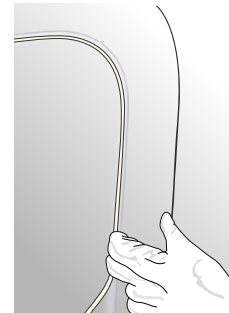

Figure 12
- › Put on a glove and apply a strip of TIRODECO or WRAPKNIFE tape to the lower edge of the substrate to be wrapped, as close as possible to the deformation. (FIG. 12)